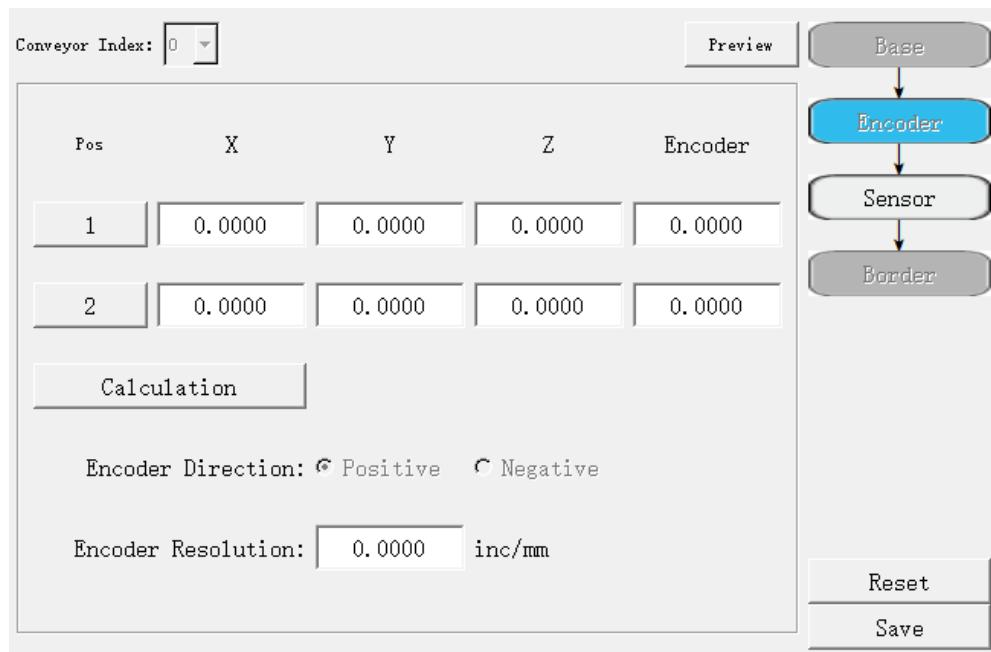
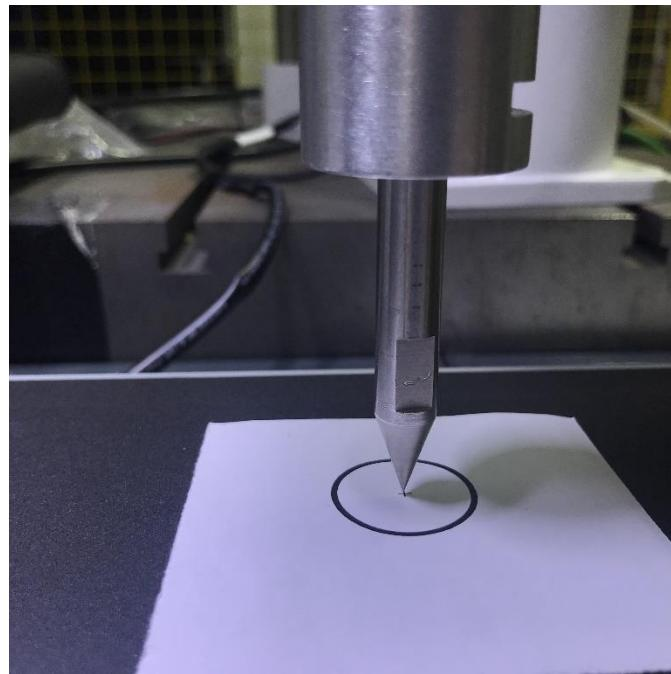

Figure 5.12 Encoder calibration page
Figure 5.13 Encoder calibration
2. Make the 3-position switch in the middle gear to enable the motor and jog the robot to the label position on the conveyor, then click **1**, as shown in Figure 5.12 and Figure 5.13.